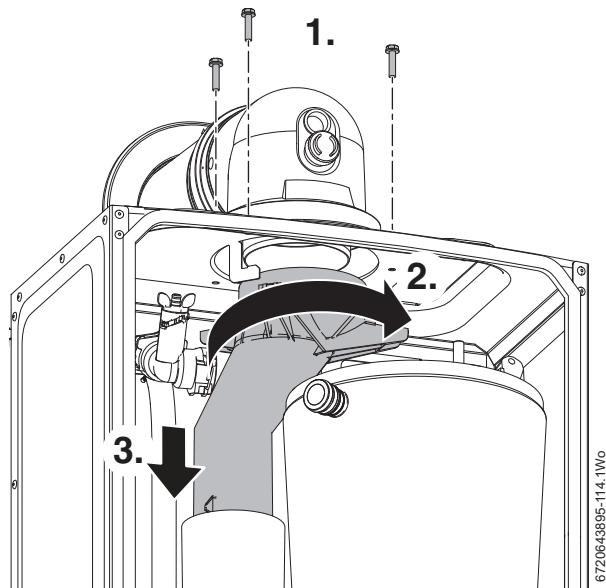

Fig. 85 Upper exhaust assembly
1. Refer to figure 85 and remove the three screws securing the turret to the top of the boiler.